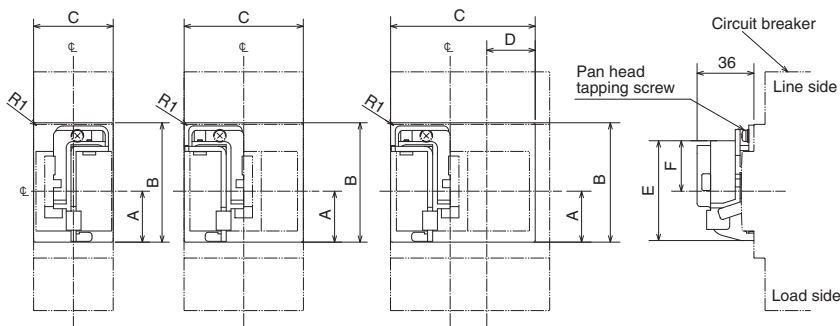

Fig. 5
| HLS-05SV2 | NF32-SV, NF63-CV, NF63-SV NF63-HV | 2P | - | - | 32 | 75 | 50 | - | - | 32 | Fig. 5 | b |
| HLS-05SVU2 | NF100-CVFU | 2P | - | - | 32 | 75 | 50 | - | - | 32 | Fig. 5 | |
| HLS-05SVU | NF125-SVU/HVU | 2P, 3P | NV125-SVU/HVU | 3P | 32 | 75 | 86 | - | - | 32 | Fig. 5 | |
| HLS-2SVU | NF250-SVU/HVU | 3P | NV250-SVU/HVU | 3P | 32 | 84 | 100 | - | - | 32 | Fig. 5 | |
*2 A, B, C and D in Figs. 5 and 6 are drilling sizes in front plate.